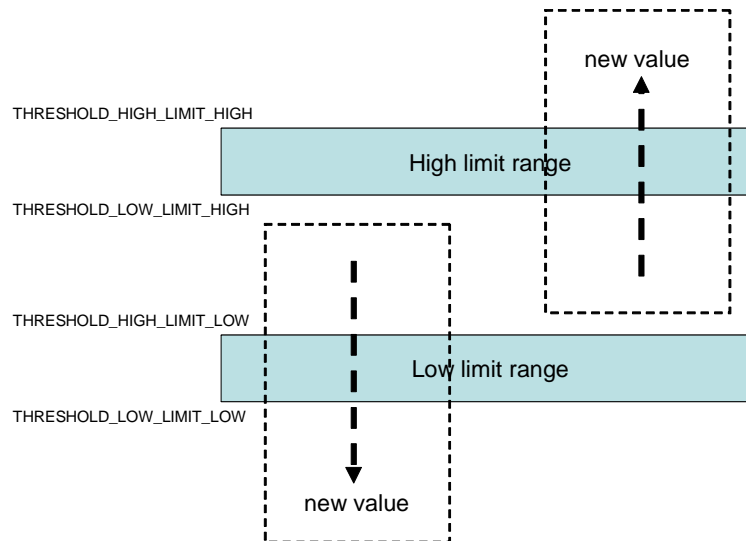

Figure 8. Threshold's Conditions for Auto Notification by Threshold Mode
2. Threshold - notification upon Voltage (see Figure 8):